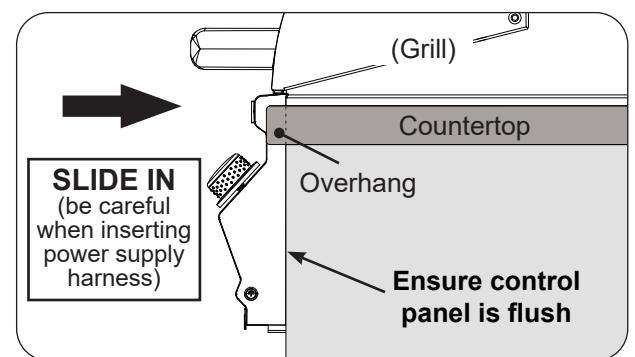

Fig. 28-3 Slide in unit (ensure flush)
- Ensure the unit fully slides in so that the control panel sits flush against the enclosure front wall. See the **COUNTERTOP OVERHANG** section in **ENCLOSURE REQUIREMENTS** for details. See Fig. 28-3.